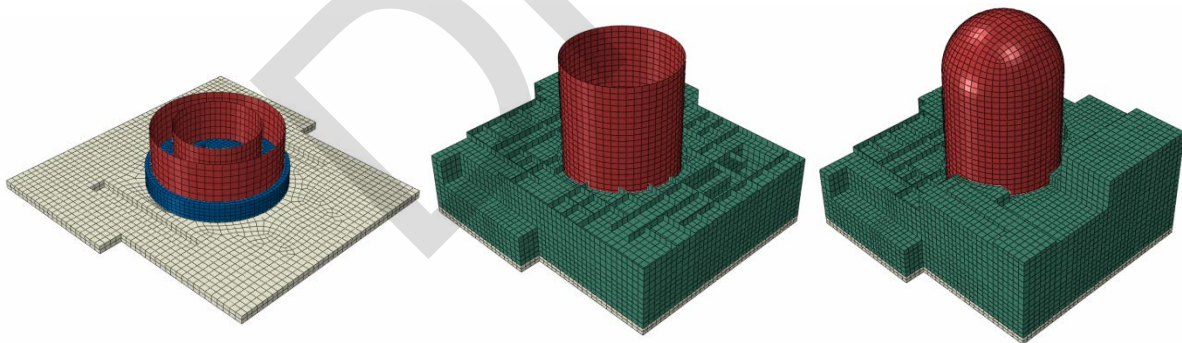

Figure 5 - Construction Stage Schematic
- 6) The stress or member forces of each construction stage shall be checked for the integrity of concrete structure during construction, and the stress or member forces of final stage shall be calculated to include in the design. Figure 5 is a schematic of the construction stages for analysis/